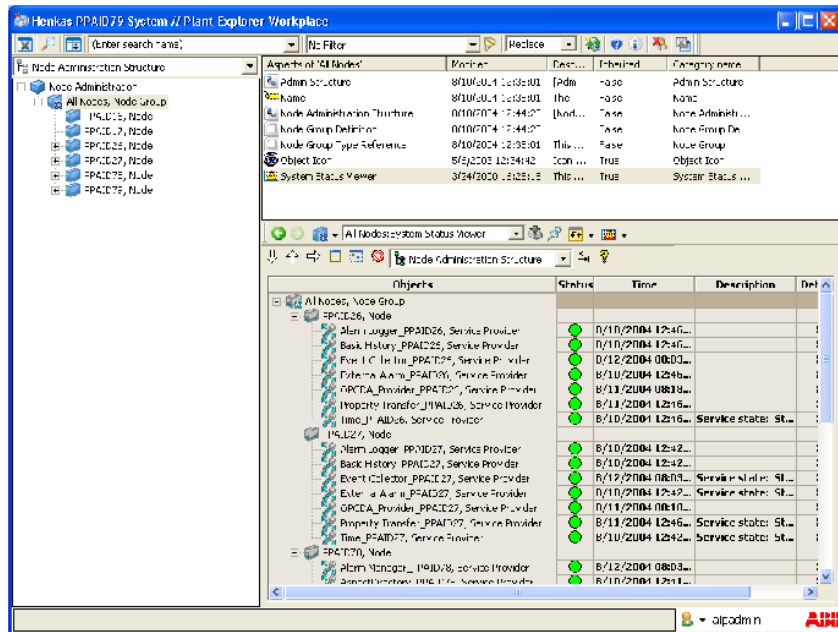

Figure 3. Verifying that Connectivity Servers and Services Are Running
- Use the Object Browser to navigate to and select All Nodes, Node Group as shown in Figure 3.